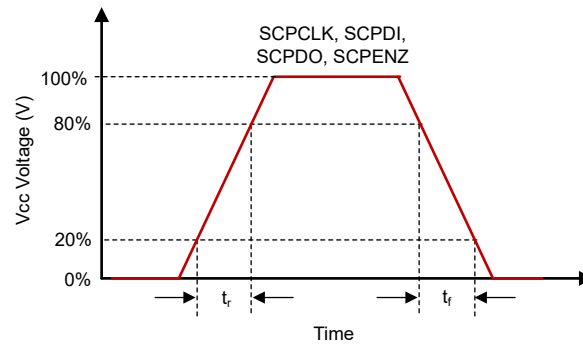

图 5-3. SCP Requirements for Rise and Fall
(1) See 图 5-3 for Rise Time and Fall Time for SCP.